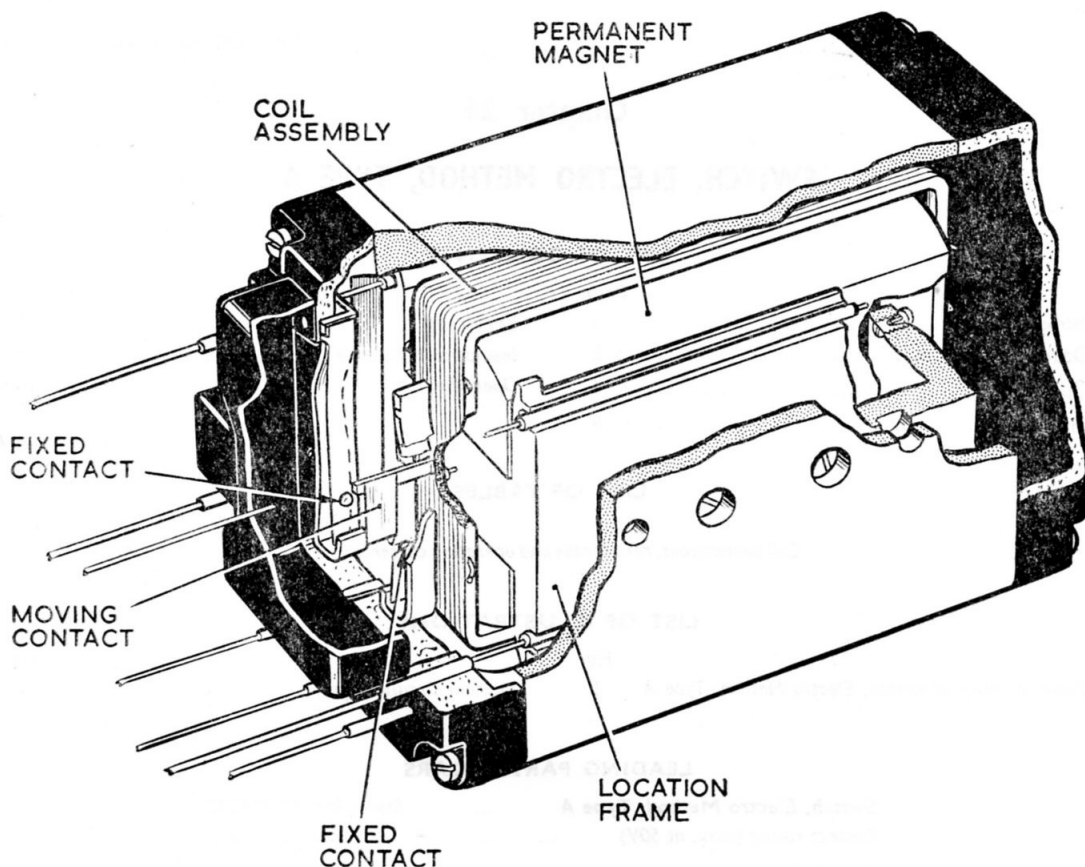

Fig. 1. Cut-away view of switch, Electro Method, Type A
2. The switch (*fig. 1*) consists of a permanent magnet and a coil assembly contained in a non-magnetic body. The coil assembly consists of two separate coils wound in the same direction on a former. A pivot pin at each end of the former locates in bearings carried in a location frame and allows the coil assembly to pivot around the permanent magnet. Two fixed contacts are housed in a